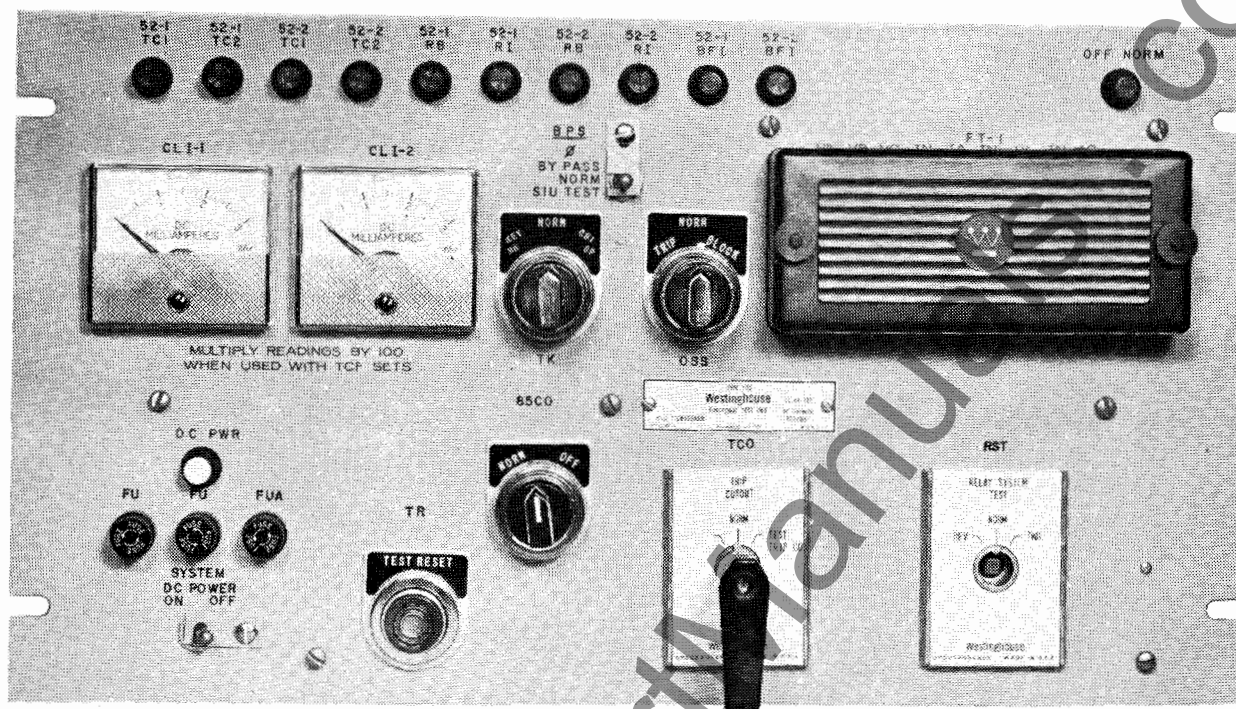

Fig. 1 Functional Test Unit – Front View
A. FTU — The test package as shown on Fig. 1 and Fig. 2 contains all the necessary features to provide for all the functions provided by FTAU, FTBU, or FTNU units. The FTU can substitute for any of these by simply leaving unused terminals open.